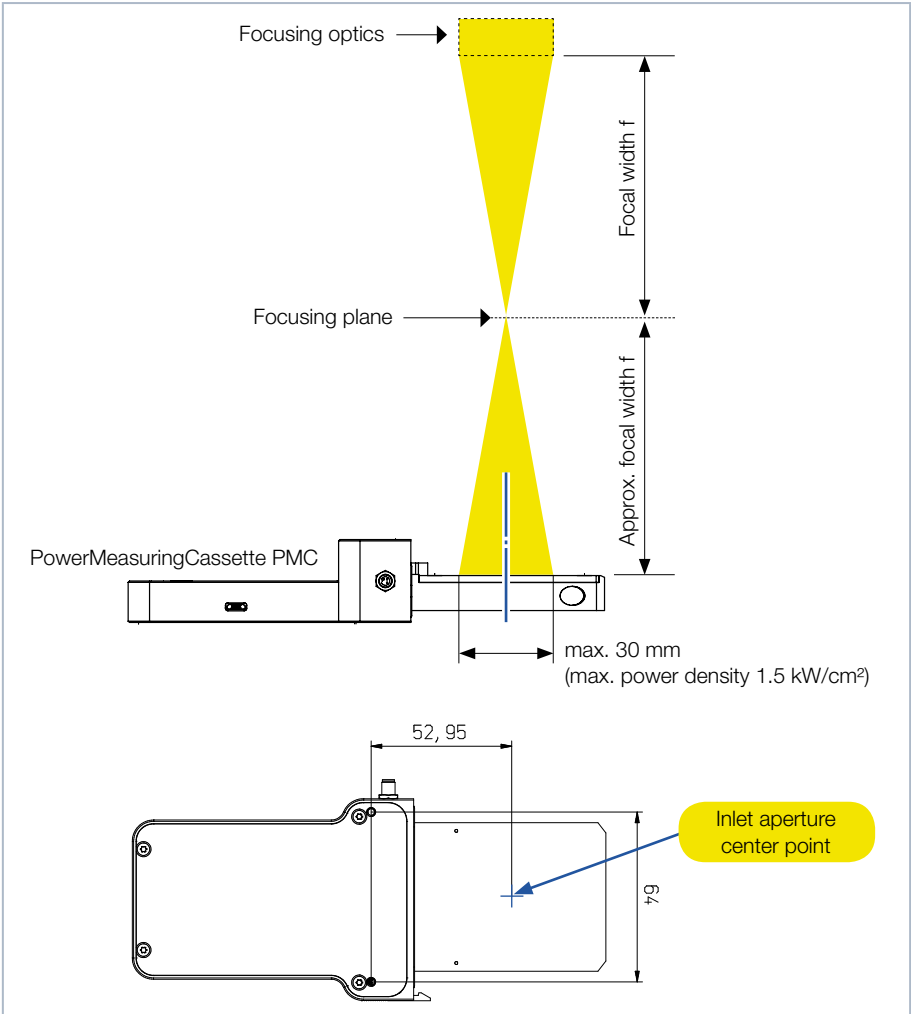

Fig. 8.1: Alignment to the laser beam (example for an BEO optics with an inlet aperture $\varnothing = 50$ mm)
1. Align the device with the laser beam as described in chapter 8.2 on page 14 and Fig. 8.1 on page 15.